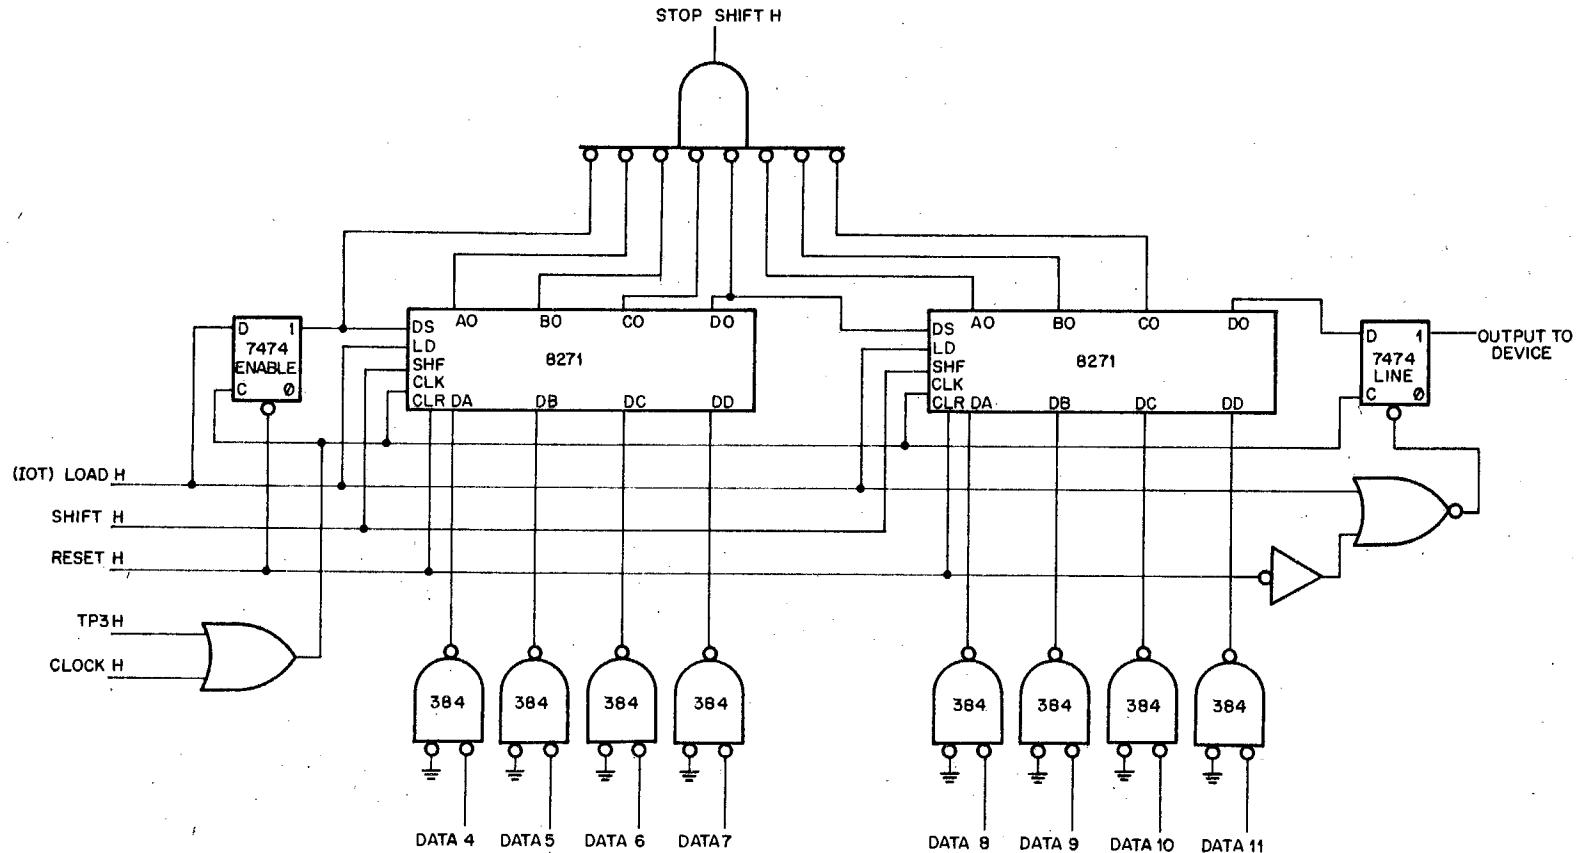

Figure 9-12 Parallel to Serial Output Buffer
**OUTPUT BUFFER**—The output buffer serves to receive processor data during an IOT instruction and outputs data to a device at the device timing. Two types of output transfers can be made depending upon the device. A parallel to parallel transfer will transfer the parallel data from the DATA BUS to an equal number of parallel lines to the device. A parallel to serial transfer will load the parallel data from the DATA BUS into the buffer and shift the data out to a single output line to the device. Figure 9-12 illustrates a parallel to serial output buffer. Signal LOAD BUFFER gates the contents of the DATA BUS onto the set side of the register flip/flops. This illustration shows 8 data bit flip/flops in between an ENABLE and LINE flip/flops. A shift control circuit must also be added to provide the necessary buffer control.
A more simple version is the parallel to parallel transfer. The illustration in Figure 9-12 could be slightly modified to include only the input gates and the flip/flops; data can be applied to the output circuit from the one side of each flip/flop.
In the sample Programmed I/O Interface Control (figure 9-11), each input flip-flop is a type 7474 and is represented on the illustration as a 12-bit buffer register. The data OUTPUT is clocked by IOT 6521 or 6523 and TP3. However, for a parallel to serial conversion (figure 9-12), the LOAD IOT loads the buffer with TP3H and shifts the data with each internal clock & shift pulse.